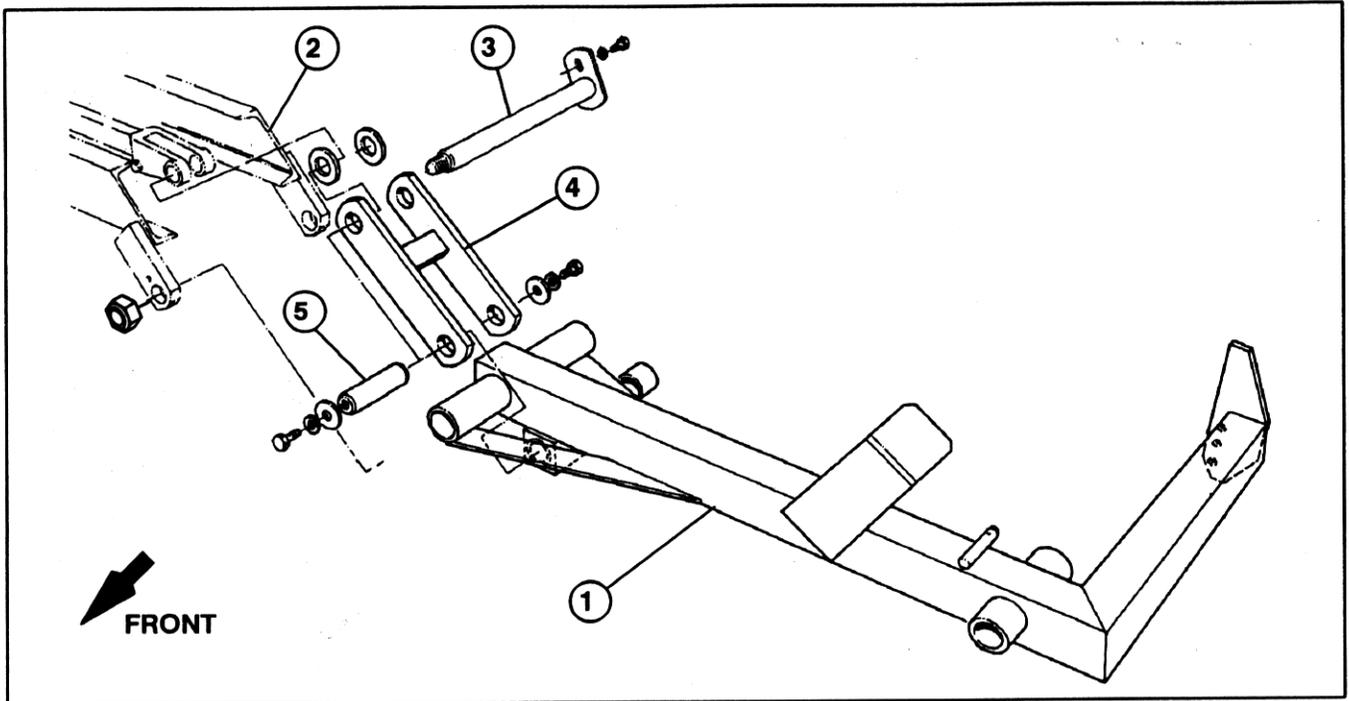

Figure 6
1. Loosely mount appropriate lift arm (right or left) to front cross channel with lift bail pin and 3/4-16 lock nut, as shown in figure 6. Install lift bail pin in direction shown in figure.
2. Secure end of lift bail pin to side of front cross channel with a 3/16-18 x 3/4" lg. capscrew and 3/16 lockwasher, as shown in figure 6. Tighten lift bail nut.
5. Secure end of link to bottom of lift arm with a shaft, (2) flatwashers, 3/8 lockwashers and 3/8-24 x 1" lg. capscrews. Link to be positioned with cross member toward frame, as shown in figure 6.
6. Mount other end of link to hydraulic cylinder with (2) larger flatwashers, flatwashers, 3/8 lockwashers and 3/8-24 x 1" lg. capscrews, as shown in figure 6. Larger flatwashers to be positioned between link and hydraulic cylinder end.